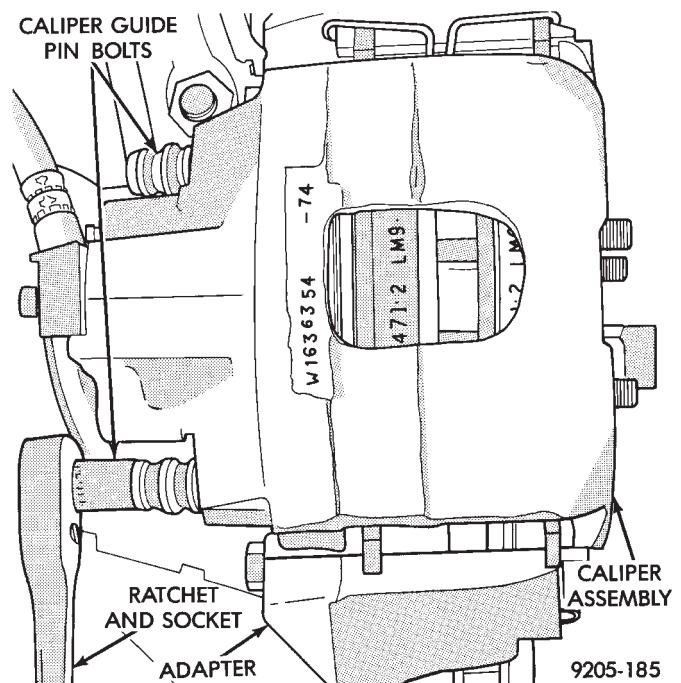

Fig. 1 Removing or Installing Caliper Guide Pin Bolts
(1) Raise vehicle on jackstands or centered on a hoist. See Hoisting in the Lubrication and Maintenance section of this manual.
(2) Remove front wheel and tire assemblies.
(3) Remove caliper guide pin bolts (Fig. 1).